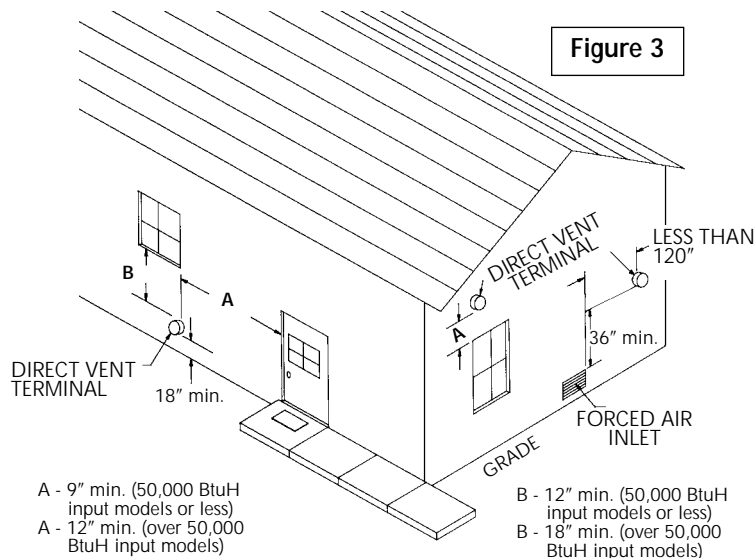

Figure 3
- The direct vent terminal shall terminate at least 3 feet above any forced air inlet located within 10 feet. Figure 3, page 8.